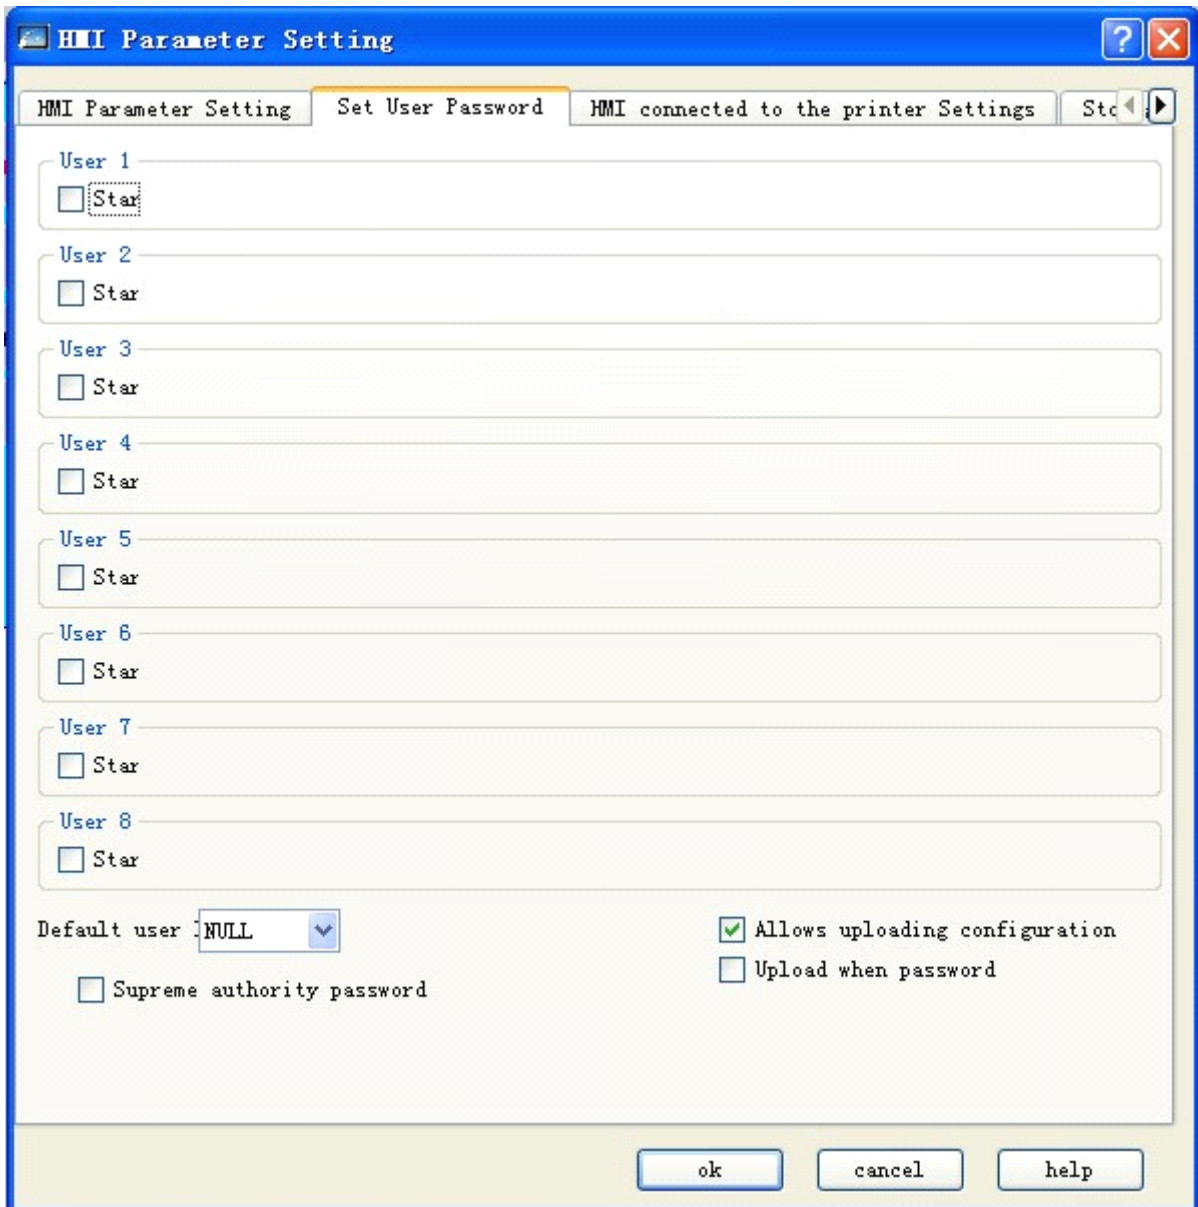

Figure 7-2 User password setting in touch screen parameter setting
2. The user password setting is shown as Figure 7-2: